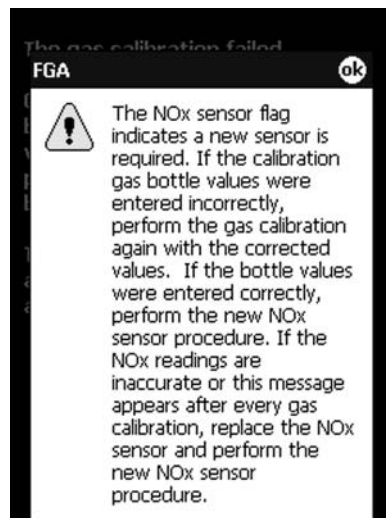

Figure 2G-10: NOx Warning Screen
**Resetting NOx Cell Output Voltage:** From time to time during normal use and calibration, the NOx cell output voltage, used to determine NOx values, must be reset. If after a gas calibration the NOx Warning screen shown in *Figure 2G-10* appears, perform the gas calibration again. However, DO NOT use the Calibration function. Instead select and perform the New NOx Sensor sequence (Maintenance > Setup > New NOx); this procedure resets the NOx cell output voltage. (See *New NOx Sensor*, page 2G-18.)